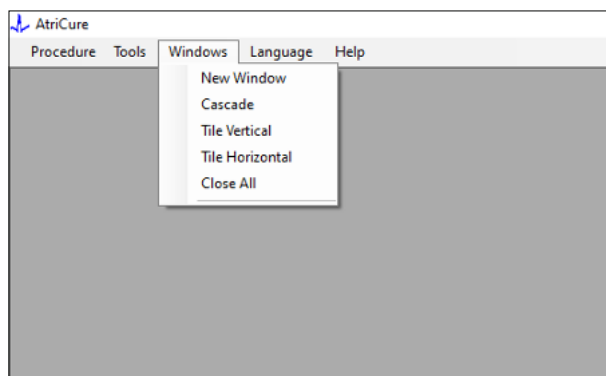

Figure 10: Options for arranging Windows in the software
3. Selecting Windows opens the following window (refer **Figure 10**):